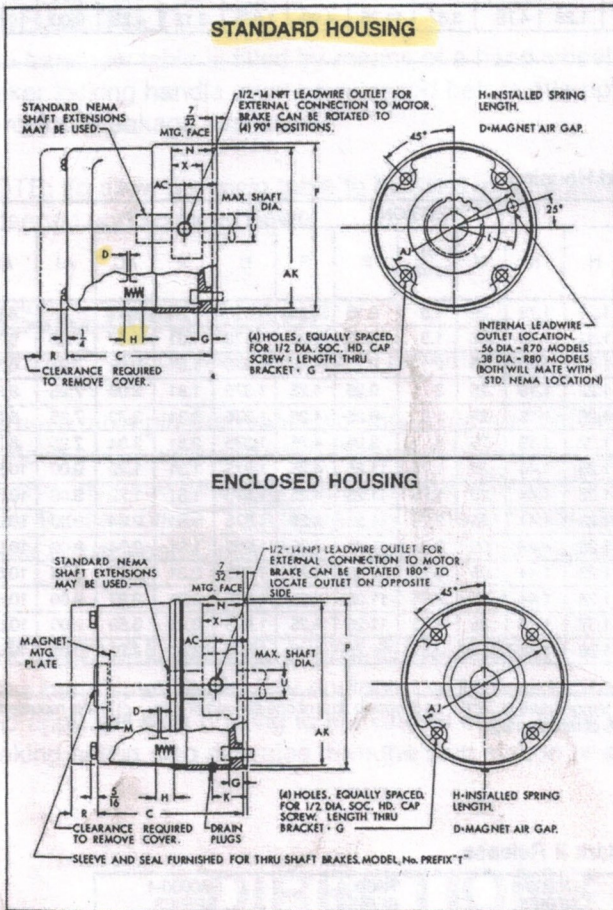

Figure 3.
Refer to Figures 3 & 5, Tables 1, 2 & 4
1. Remove hub (1) from brake and position on motor shaft with key according to dimension "N." Stamped part number on hub should face away from motor. Tighten hub set screws with 12 ft. lbs. torque. On Mark II release models, motor shaft should not extend beyond hub.
2. Remove cover screws (24) and cover (23), plus "O" ring (28) and gasket (32) on enclosed housing models. On Mark II models, move release lever to horizontal position. Remove cover.
4. Bolt brake to motor "C" face with four socket head cap screws. See Tables 1 and 2, and Figure 3 for screw size.
Refer to Figures 3 & 5, Tables 1 or 2
Refer to Figures 3, 4 & 5, Tables 1 or 2
Refer to Figures 3, 4 & 5